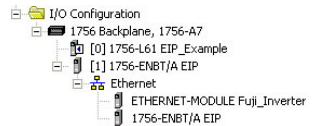

Figure 87: I/O Configuration Tree
- 6) After adding the I/O Module to the configuration, the full I/O Configuration tree should appear similar to Figure 87.